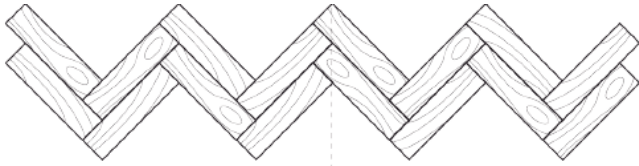

Figure 1
2. Start with laying a few complete zig-zag rows over the width of the room by connecting the short side of the panels into the long of the adjacent panel (Figure 1)
3. For aesthetic purposes it is best to center the middle of this row in the middle of the room. (Figure 1)